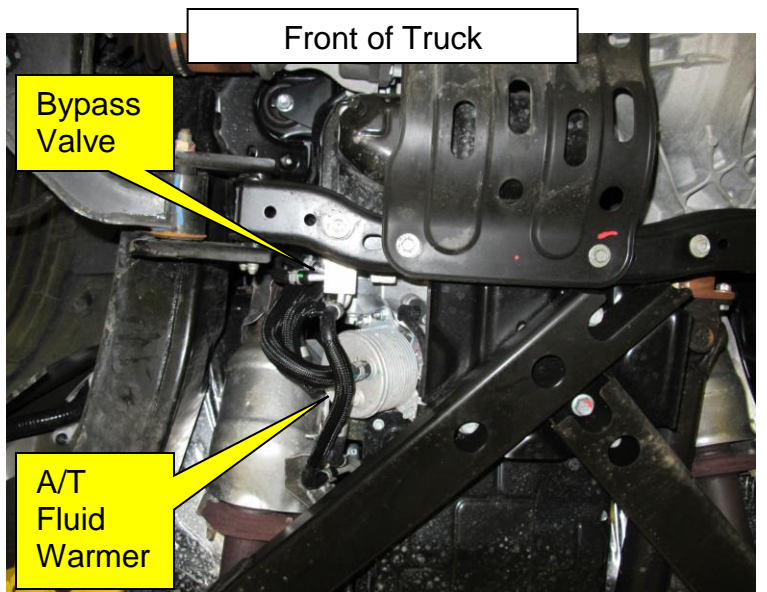

Figure 4
5. Locate the A/T fluid warmer and bypass valve on the passenger side next to the catalyst (Figure 4, 5).